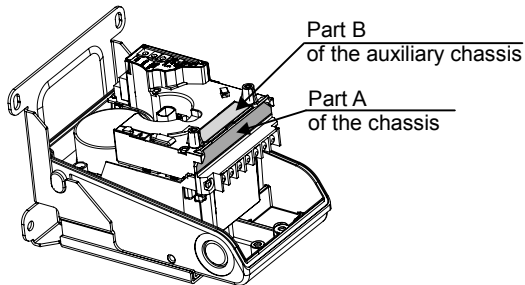

Figure 7. Parts to be removed for mounting the auxiliary switch
• Assembling the switch unit (See Figs. 7 and 8.)
- (1) Break the parts A (of the chassis) and B (of the auxiliary chassis).